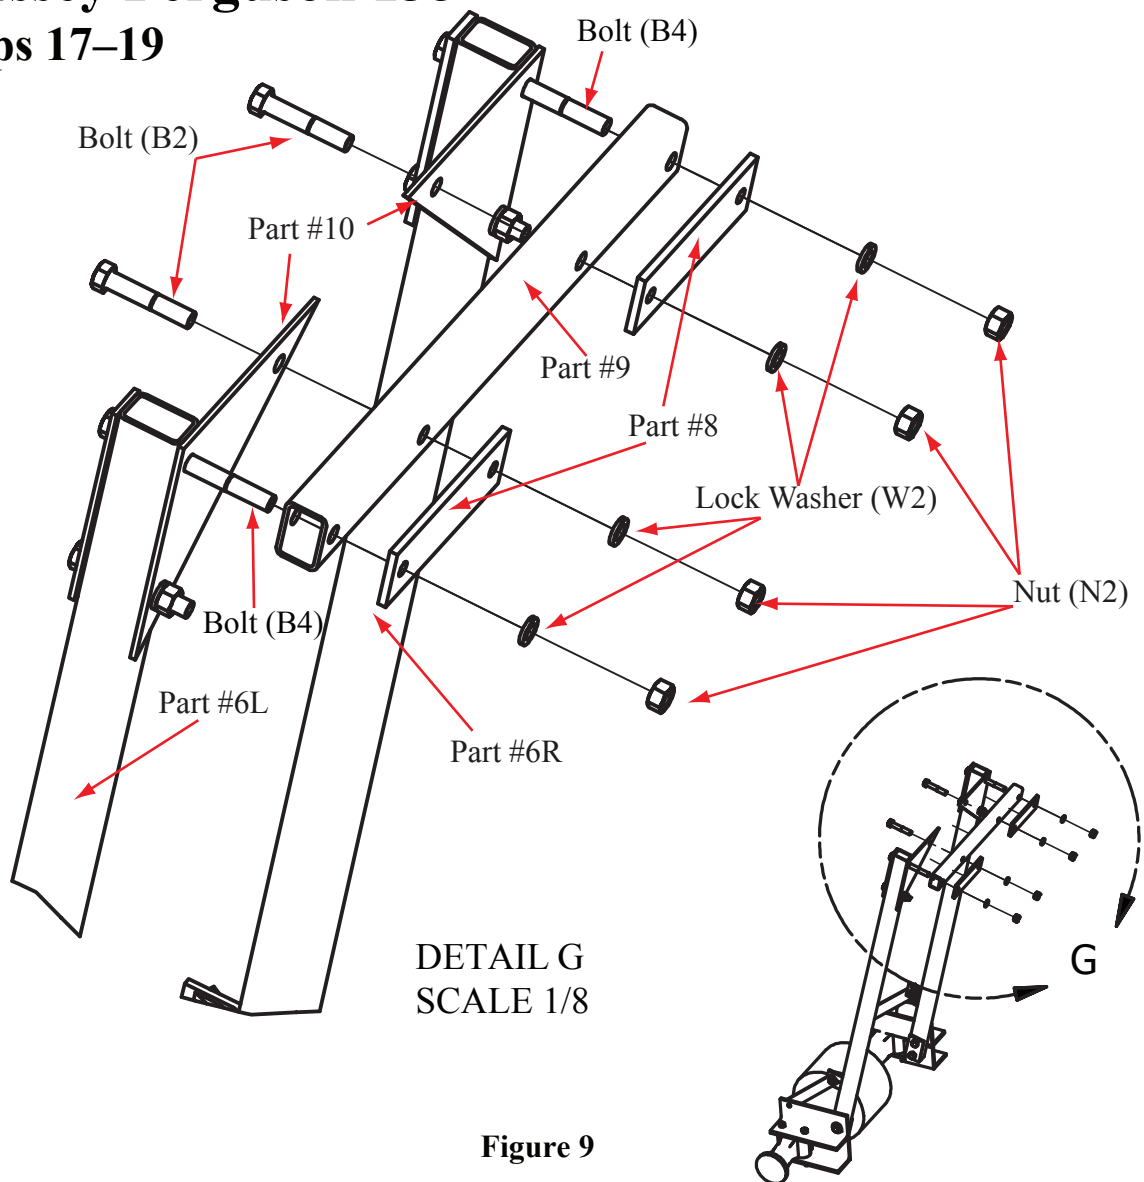

Figure 9
**Step 19.** Insert bolts (B2) through the remaining inside holes of the corner plates (#10), the cross bar (#9), and the cross bar backing plate (#8). Create a snug fit with a lock washer (W2) and a nut (N2). Snug the connections made in steps 17 and 18. (Figure 9)